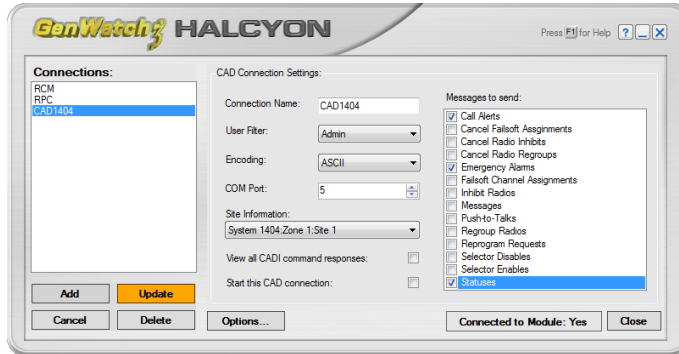

Figure 1.6 – CAD Connection Settings panel
4. Click **OK**: This will close the *Connection Type* window and show the **CAD Connection Settings** panel as shown in Figure 1.6.